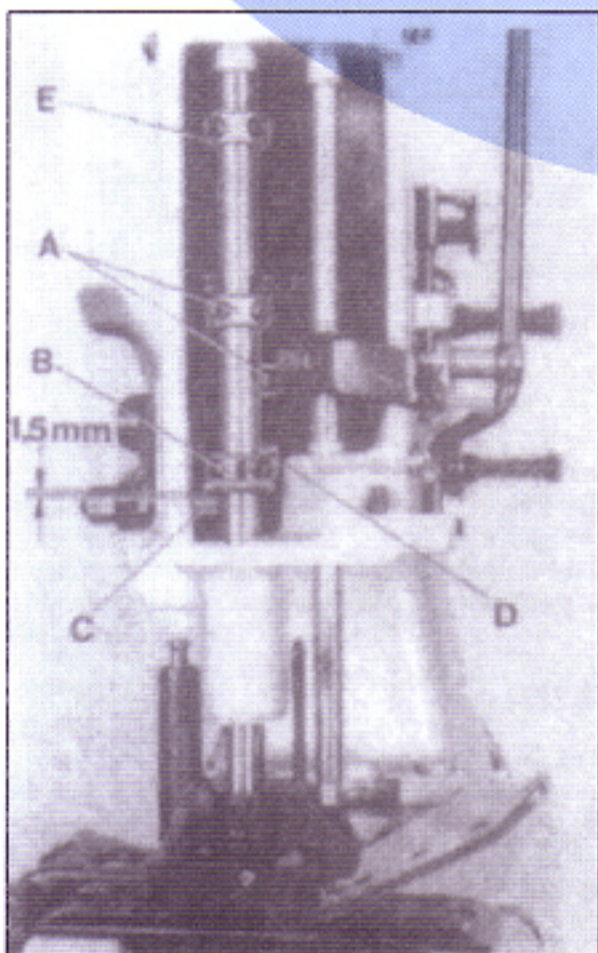
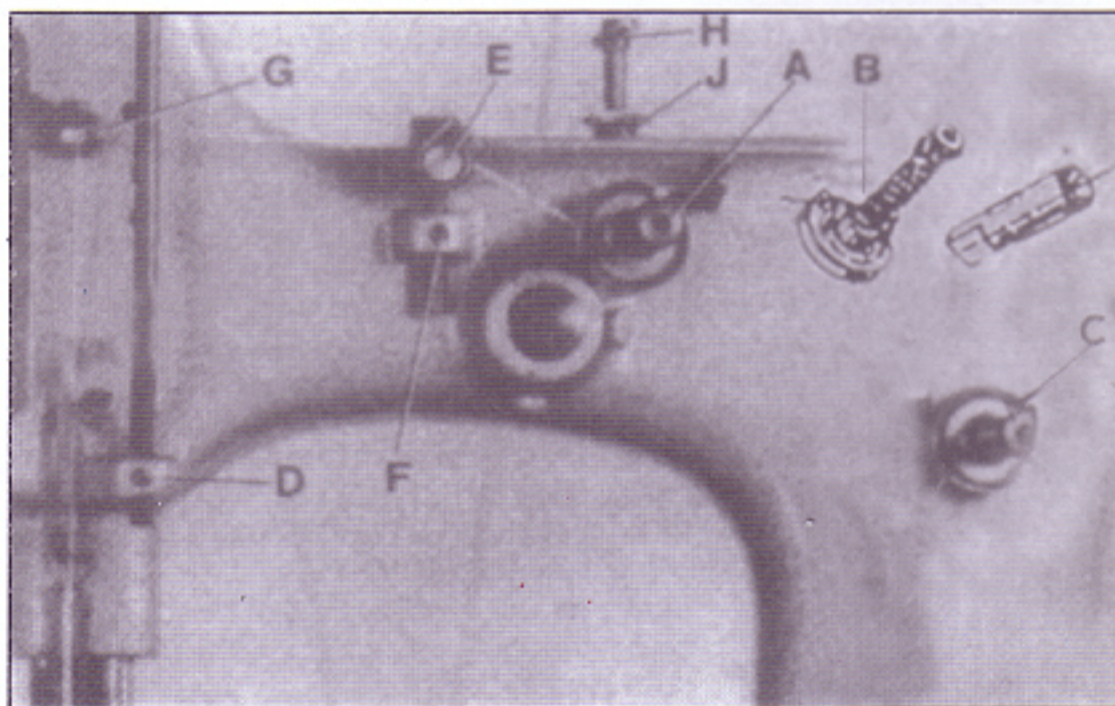

Fig. 7
Fig. 8
Rotate the pulley until the feed dog is below the throat plate. Remove the face cover left on machine arm and turn out the T-screw (H, Fig. 8) on the top of the machine arm, until it does not exert any pressure on the leaf springs. In this position, the pressure exerted on the presser foot, should be just strong enough to keep it flat on the throat plate. By relocating the collars (A, Fig. 7), which serve as a leaf spring rest, on the left and right presser bar, the pressure can be changed. Raising the collars increases the pressure, lowering the collars decreases the pressure.
Set the presser bar lifter collar (B, Fig. 7) on the left presser bar so, that there is a distance of approx. 1.5 mm (1/16 in.) between lifter lever stud (C) and lower surface of the lifter collar (B), when the presser foot rests on the throat plate (see Fig. 7). Set the collar (D) on the right presser bar close to the fork of the presser bar lifter collar (B) on the left presser bar. The presser foot lift is limited with the upper stop collar (E, Fig. 7) on the left presser bar. When the needle is in its lowest position and the presser foot is lifted with presser foot bottom tilted up, the needle bar respectively needle clamp nut should not contact the presser foot bottom. Set collar (E) accordingly.
Now turn in T-screw (H, Fig. 8) until the necessary presser foot pressure for proper feeding is exerted (determine via sewing tests). Secure this setting with the knurled nut (J), which simultaneously fastens the upper arm cover. Remount the face cover.
The tensions (A&B, Fig. 8) on the needle thread should be fairly strong to produce uniform stitches. The tension (C) on the looper thread should be barely sufficient to steady it.
On the two thread double locked stitch styles 80800C, E, H and HA, the height of the needle thread take-up roller (C, Fig. 8) is set so that the needle thread on the downstroke of the needle just contacts the roll at the time the needle thread loop is released from the looper. Loosen screw (D) and set the needle thread take-up roller accordingly. Retighten screw (D).
On all styles the eyelet (E, fig. 8) should be positioned so, that the needle thread runs nearly horizontal, parallel to cloth plate, between eyelet (G) on needle bar connection and eyelet (E) on machine arm, when the needle is in its upmost position. Eyelet (E) is secured by screw (F).